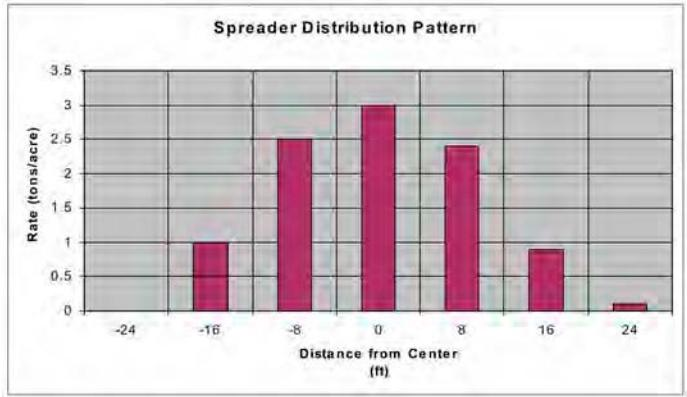

Figure 4. A sample data sheet and graph of distribution pattern.
8. Plot the spreader distribution on a graph with the vertical ("y") axis equal to the application rate for each tarp and the horizontal ("x") axis as the distance from the center of the spreader path to the center of each tarp (Figure 4). An Excel spreadsheet is available that will do the plotting automatically. (See Resources section.)
For instance, if we use the data from Figure 4, the average amount on the seven tarps is 1.4 tons/acre, and the tarps were sampling an area 56 ft. wide.
(7 tarps x 8-ft spacing = 56 ft.) If no overlapping of patterns takes place, the manure would be applied at 1.4 tons/acre. If the spreader lanes are 40 feet apart, then the average application rate would be $56/40 \times 1.4 = 2.0$ tons/acre. If the lanes were 25 feet apart, the average rate would be $56/25 \times 1.4 = 3.2$ tons/acre. Note that by looking at Figure 4, we can see that the effective swath width is approximately 25 feet, and the 3.2 calculated above is approximately equal to the maximum rate of 3 tons/acre.